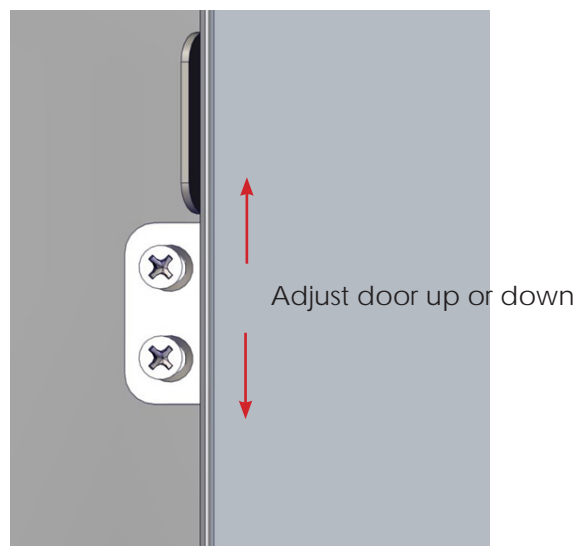

Fig. 21: Adjust Door Up or Down
2. Move the door up or down (up to 1/4" in either direction) to align one door with the other (Fig. 21). Use a level to ensure the door frames align properly.